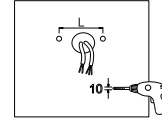

Figure 16
2. FLOOD MOUNTING (FM)
Step 1: Drill holes on the wall as shown(Figure 16);